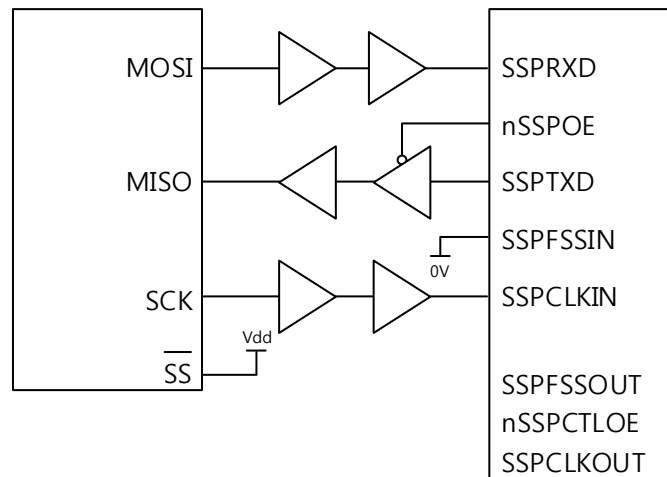

Figure 68. SPI master coupled to a PrimeCell SSP slave
Figure 68 shows a Motorola SPI configured as a master and interfaced to an instance of a PrimeCell SSP (PL022) configured as a slave. In this case, the slave Select Signal (SS) is permanently tied HIGH to configure it as a master. The master can broadcast to the slave through the master SPI MOSI line. In response, the slave drives its nSSPOE signal LOW.